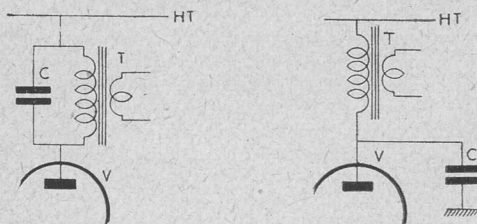

Fig. 7. Illustrating the two alternative positions in which the tone compensating capacitor mentioned in the text may be found.
- (iv) in the tone correction capacitor connected across the speaker transformer primary (See Fig. 7),